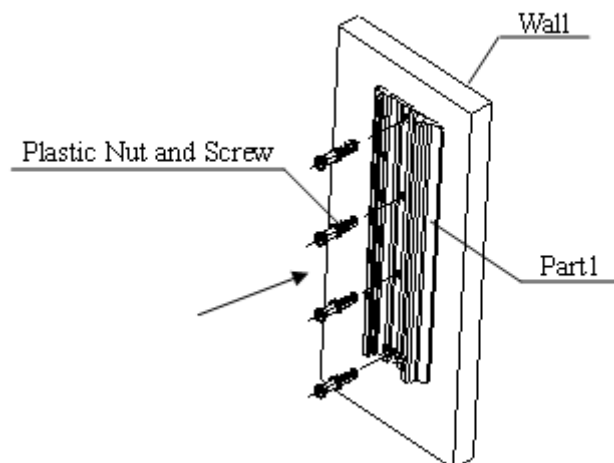

Figure 2-1
3. Knock 4 screws in the plastic nuts, when tightening them, secure the channel (part 1) at the desired location of the wall (as shown in Figure 2-1).